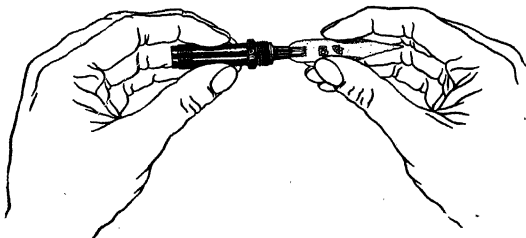

FIG. 9.—Checking diameter of electrode tip.
**Shoulder Diameter Electrode.**—Measure the diameter of the center electrode shoulder at the point where the mica laminations start. Use a gage as illustrated in Fig. 9. If the shoulder passes through the opening in the gage, it should be discarded. Gages may be obtained from B G upon request, at no charge.